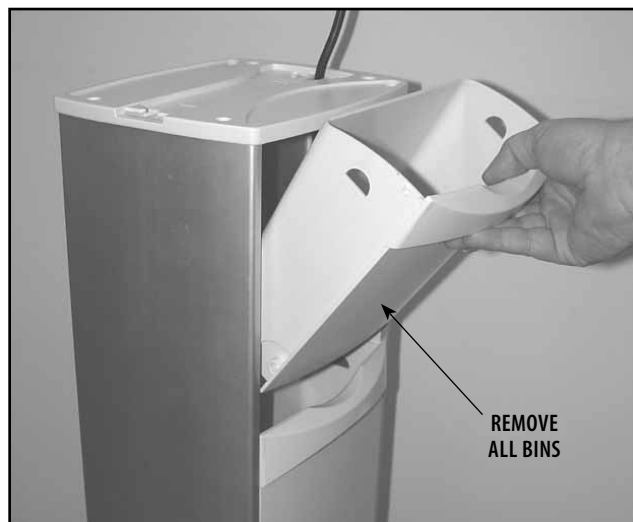

FIGURE 6.52
1. Remove all the Storage Bins from both sides of the Therapy System Cart by pulling each bin out and up. See Figure 6.52.